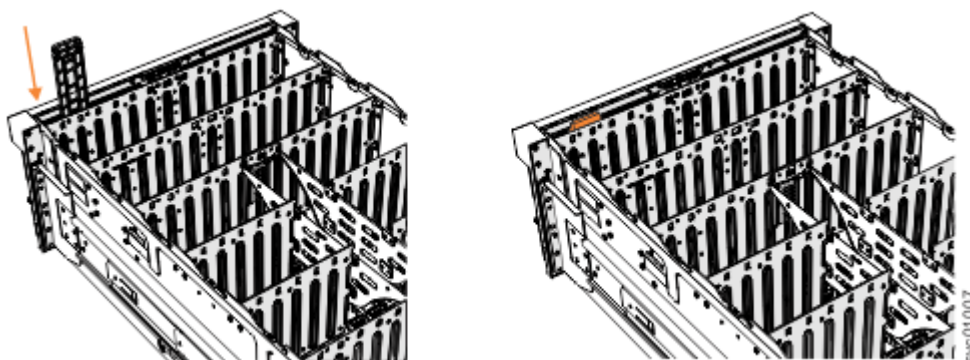

Figure 150. Installing the display panel assembly
6. Carefully align the display panel assembly in the slot at the front of the expansion enclosure, as shown in Figure 150 on page 200.